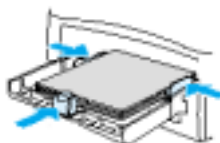

Figure 17. Closing the Media Guides
11. Slide the side guides and front guide until the guides are flush with the media. Figure 17 shows the location of the media guides.